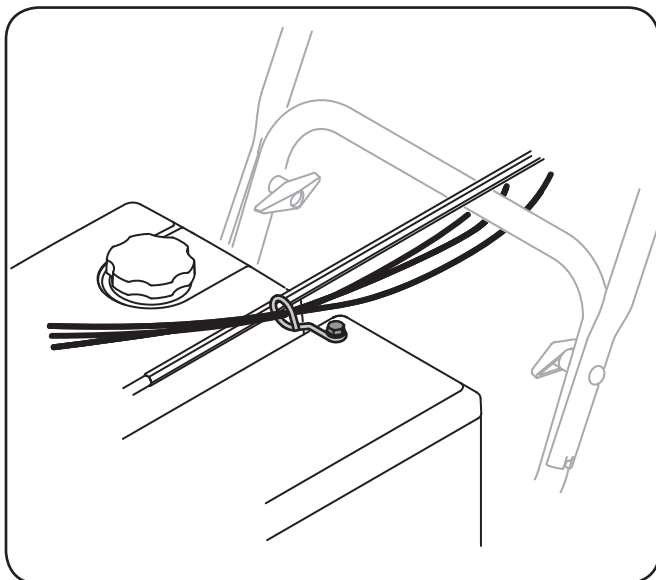

Figure 3-13
- Check that the cables are properly routed through the cable guide on top of the engine. Some models only have one cable to route through the cable guide. See Figure 3-13.